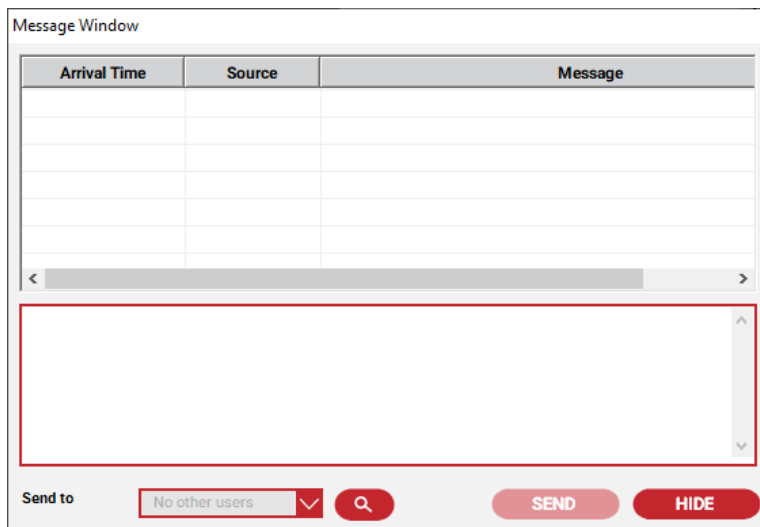

Figure 4-31 User Message Window
2. Select the **Create Note** option. The Create Device Note window displays (refer to Figure 4-31 Create a New Note).